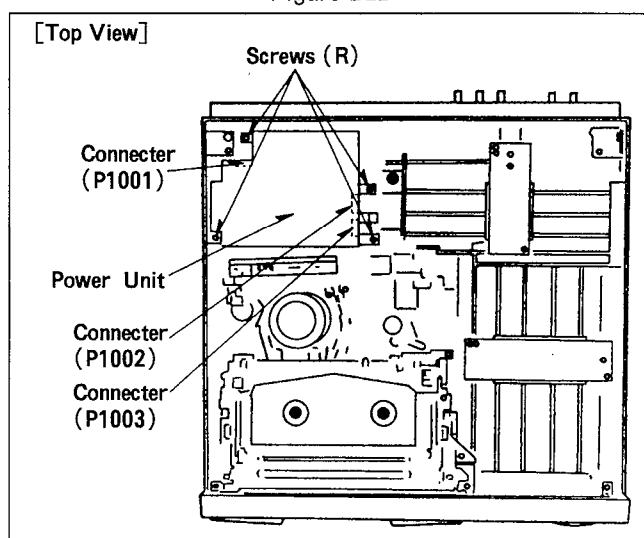

Figure D23
2. Unscrew the 4 screws (R) on the Power Unit. (Figure D23)
3. Lift the Power Unit and then carefully pull out the 3 connectors (P1001, P1002 and P1003). (Figure D23)